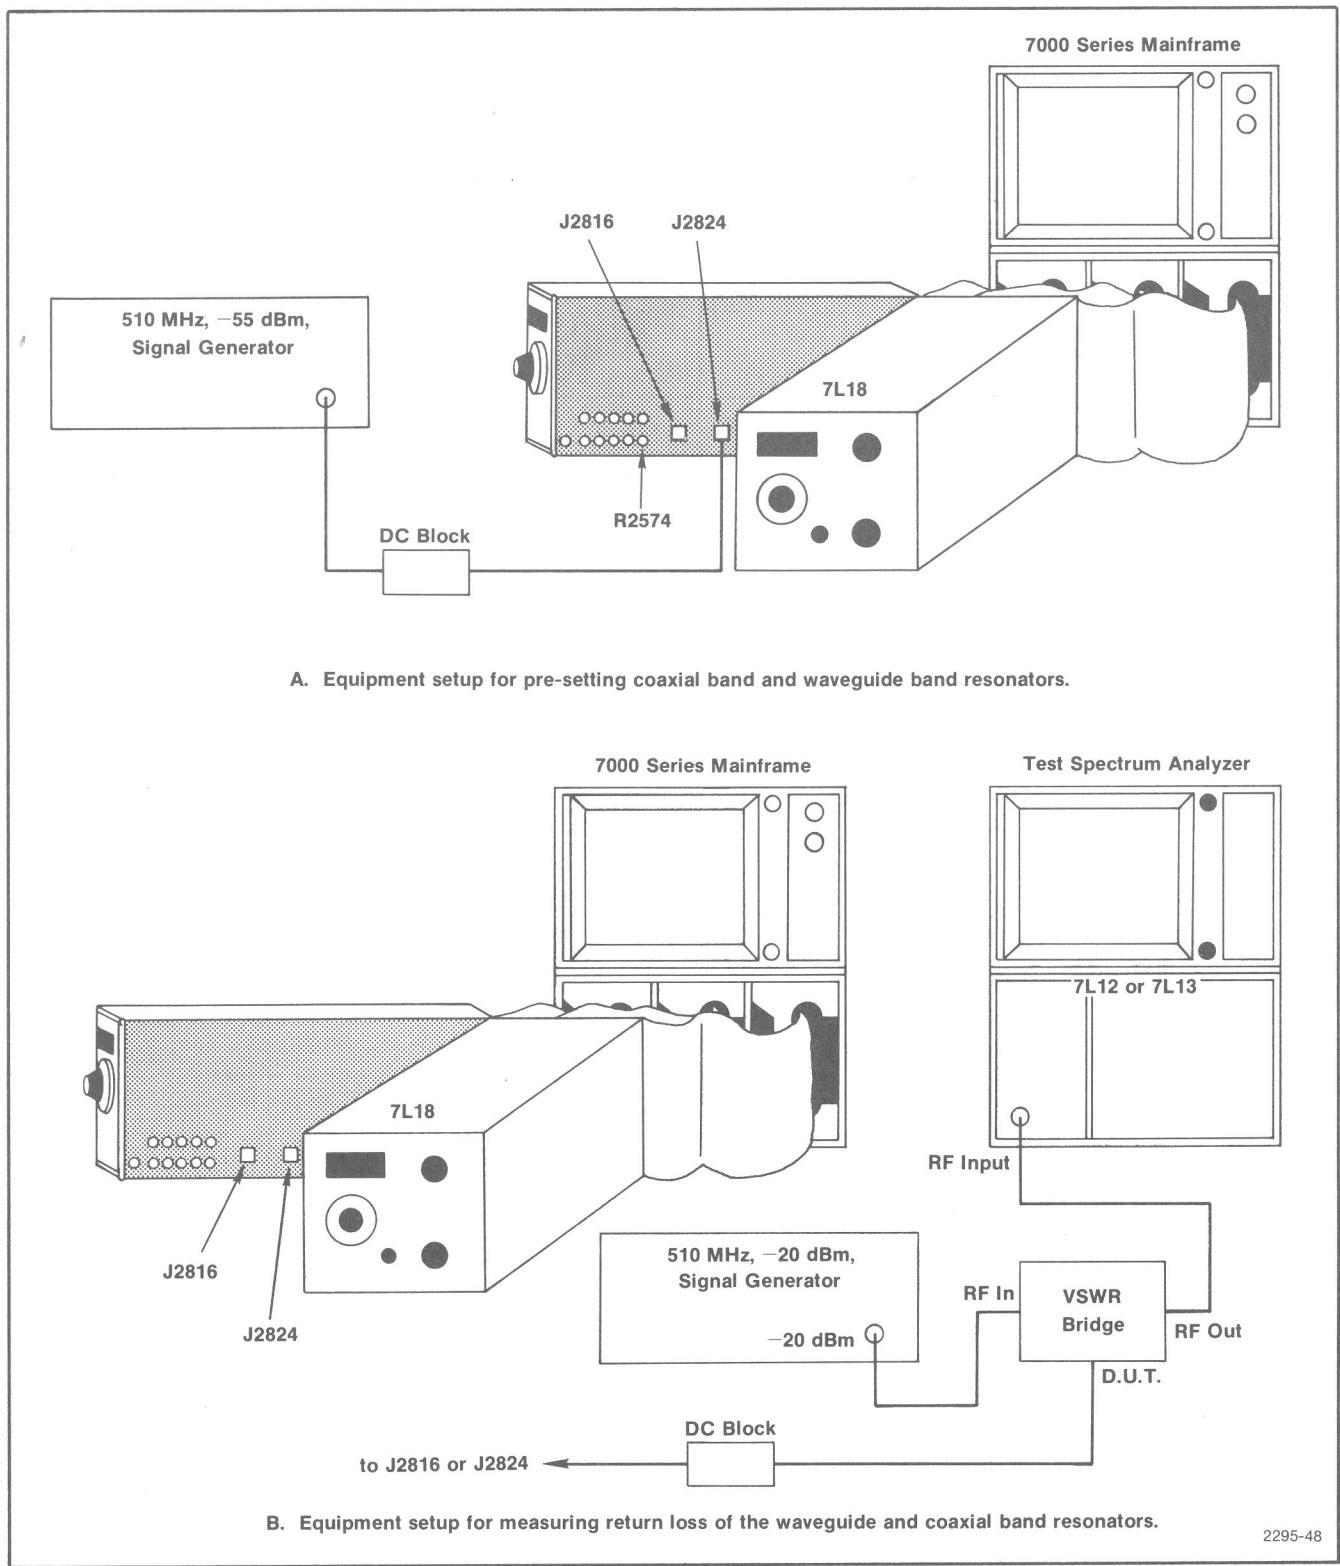

Fig. 4-40. Test Setup for Calibrating 510 MHz IF.
- c. Disconnect P40 and P44 from J2824 and J2816 (Fig. 4-40 or 4-41).